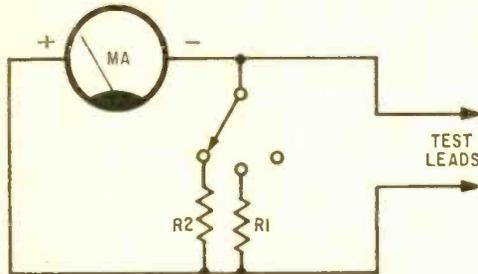
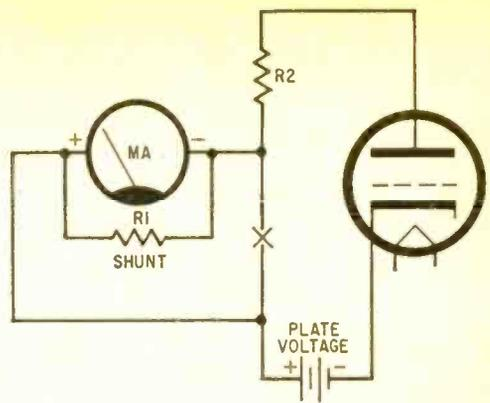

Fig. 6. A multi-range DC milliammeter.
Fig. 5. A milliammeter with shunt resistor measuring plate current. Shunt bypasses most of plate's current so meter is not overloaded.
**Current meters.** The same basic DC meter can be used for measuring current. Obviously, a 0-1 DC milliammeter will read full scale when one milliamperere flows through its coil. But, if we shunt a resistor across the meter terminals, as shown in Figure 5, part of the current flows through the meter and part through the shunt resistor. If the internal meter resistance is 100 ohms and the shunt resistor also has a value of 100 ohms, the range of the meter will be doubled. The range can be further increased by reducing the value of the shunt resistor. A multi-range milliammeter can be formed by using a selector switch, as shown in Figure 6, to select various values of shunt resistors.
through a series resistor. But, when measuring current, the meter is inserted in series with the circuit as shown in Figure 5 which shows how tube plate current can be measured. The circuit is broken at X and the meter is then in the circuit.